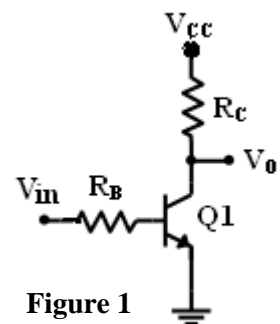

Figure 1
- 1) **Common-Emitter Amplifier (CE):** It is characterized by high voltage and current gains,  $A_v$  and  $A_i$ , respectively. The amplifier typically has a relatively high input impedance  $Z_i$  (1 to 10 k $\Omega$ ) and high output impedance  $Z_o$  so it is generally used to drive medium to high loads. Since the amplifier cannot drive low resistance loads  $R_L$ , then usually it is cascaded with a Common-Collector (CC) (*some times called, emitter follower or buffer*) circuit that can act as an impedance matching.
- 2) **Common-Collector (CC):** It is characterized by voltage gain lower than or equal to one ( $A_v \leq 1$ ) and a high current gain  $A_i$ . When the circuit has a unity voltage gain ( $A_v = 1$ ), it became an **Emitter Follower** or **Buffer** that provide isolation between two circuits while providing driving capability for low loads resistance. The CC has high input impedance  $Z_i$  (1 to 10 k $\Omega$ ) and low output impedance.
- 3) **BJT Switching Device:** The transistor switch is the basic element of logic circuits since mechanical switches are not used. A schematic of such a switch is shown in Figure 1, where the transistor circuit is switched between cutoff and saturation regions. Open switch condition when  $V_{in} < V_{BE-on}$  the transistor will be in cut-off region,  $I_B = I_C = 0.0$  mA providing a constant output voltage  $V_O = V_{CC}$ . Closed switch condition when  $V_{in} = V_{CC}$ , the transistor is in saturation region and  $I_C = (V_{CC} - V_{CE-sat}) / R_C$ , providing a small constant output voltage  $V_{CE-sat} \cong 0.2V$ .